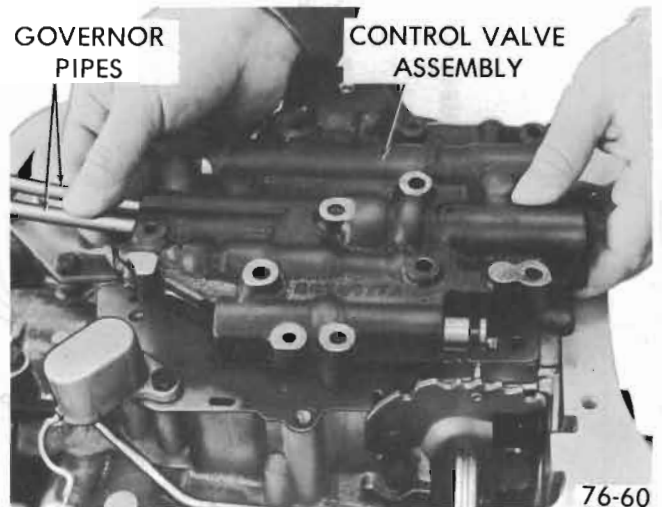

Figure 76-60
4. Remove valve body assembly and governor pipes. See Figure 76-60.